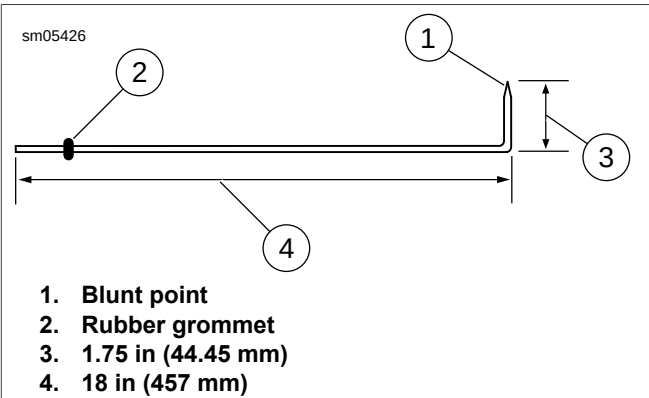
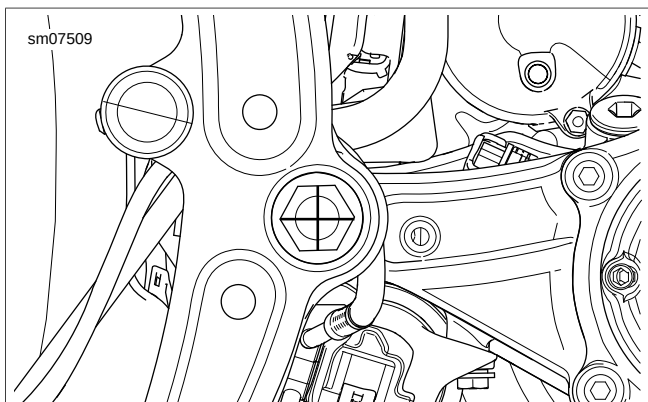

Figure 2-40. Axle Alignment Tool
Figure 2-41. Pivot Bolt Center Marking
5. See Figure 2-40. Fabricate an alignment tool using a piece of 1/8 in (3.175 mm) diameter aluminum welding rod approximately 20 in (508 mm) long:
- a. Grind one end down to a blunt point (1).
- b. Use pliers to bend rod at a 90 degree angle (3), 1.75 in (44.45 mm) from the blunt point.
- c. Place a snug-fitting rubber grommet (2) on rod to act as a slide measurement indicator.
- a. See Figure 2-41. Measure outer diameter of rear fork pivot bolt and divide measurement by two. Using a pencil, draw a line from two different directions to mark an X.